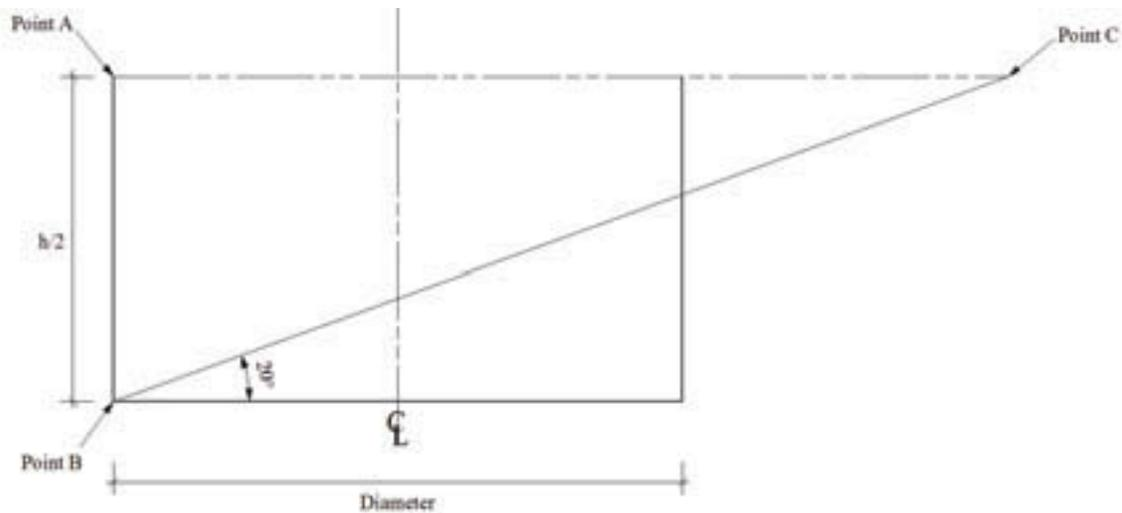

Fig. 79: Tank shape, bottom — Step 2
- Draw a line with an angle of  $20^\circ$  from the lower left hand corner of the tank (Point B) and extend it until it crosses the line just drawn at the tank midpoint. Label the intersection of these two lines as Point C (figure 79).